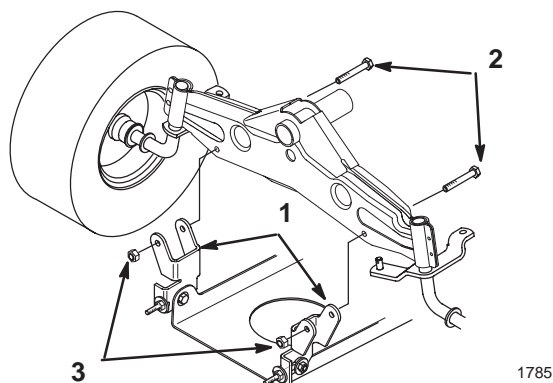

Figure 6
4. Install the mower pivot mount brackets onto the front axle with the bolts and locknuts (Fig. 6). Tighten the fasteners.